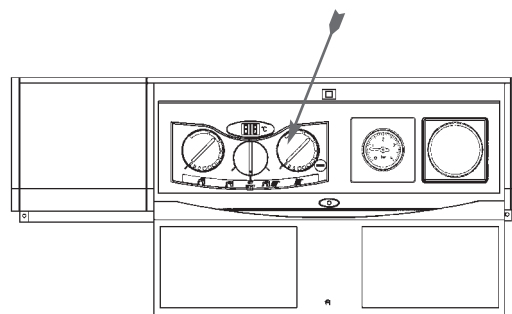

Fig. 5
3.3 Adjust the central heating temperature control knob (5) to suit the weather, turning clockwise to increase setting, anticlockwise to decrease setting (Fig.5). When the appliance is being used in the central heating mode the temperature indicator (1) indicates the approximate temperature of the central heating water leaving the appliance.